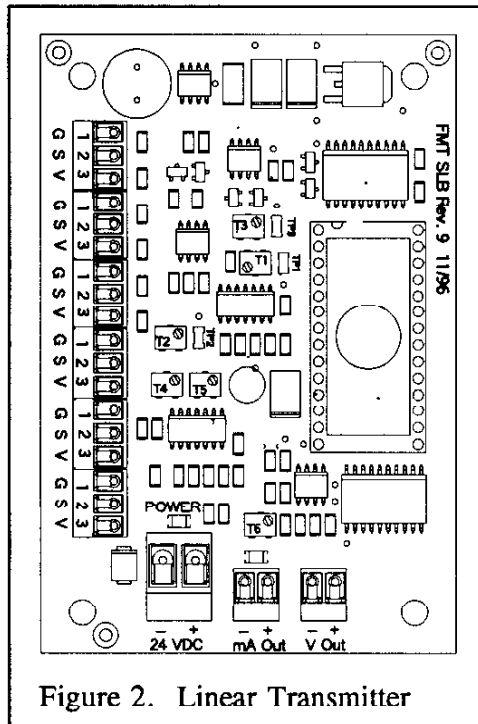

Figure 2. Linear Transmitter
1. Disconnect the linear transmitter output from the DDC or building control system. Verify that all wiring has been done as shown in the installation instructions. Refer to Figure 2 for Linear Transmitter drawing.
3. Using the adjustment trimmer labeled "T2" shown in figure 2, adjust the span of the unit up or down to change the output to the desired output signal. Clockwise increases the span and counter-clockwise reduces it. There is a time delay built into the output circuitry so make span changes slowly to avoid overshooting the target value.